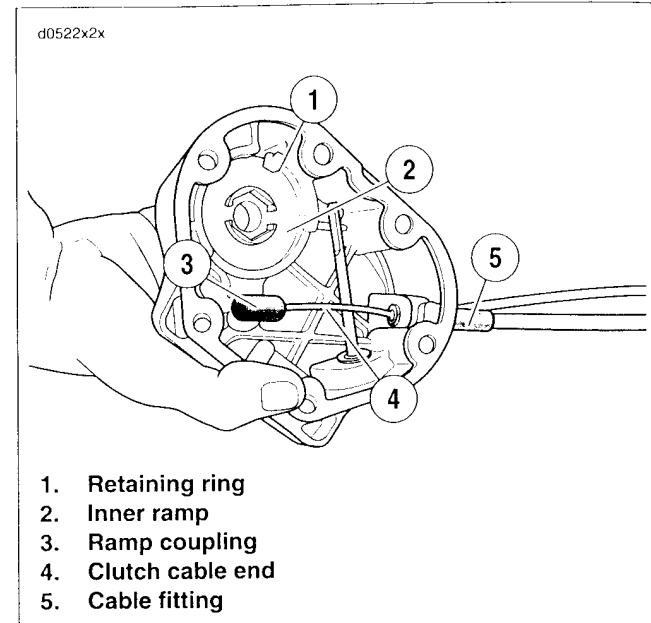
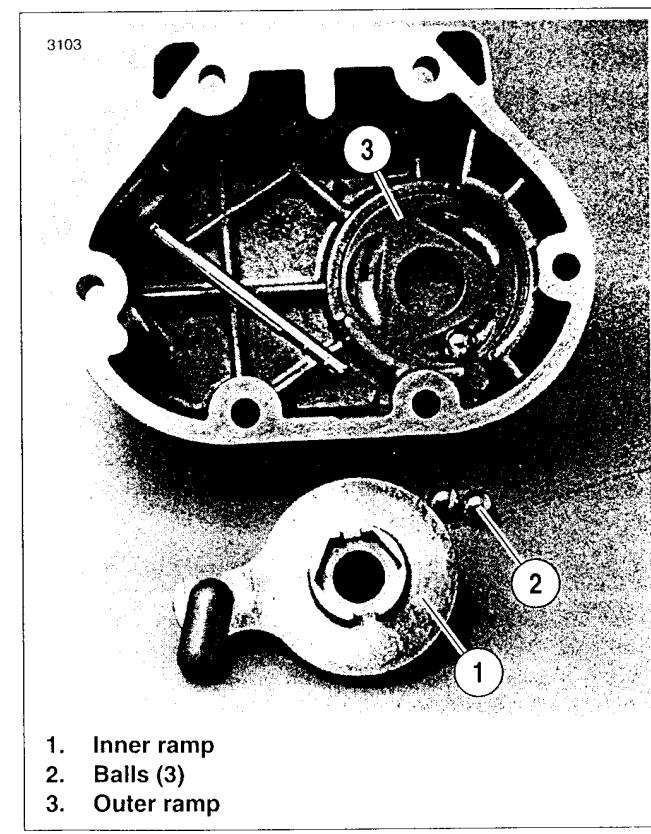

Figure 7-18. Clutch Cable Connection
Figure 7-19. Coupling and Ramp Assembly
4. See Figure 7-18. Note position of retaining ring opening. Remove retaining ring (1). Lift inner ramp (2) and coupling (3) out of clutch release cover. Disconnect clutch cable end (4) from the ball and ramp coupling (3).
5. Unscrew cable fitting (5) from clutch release cover.
6. See Figure 7-19. Remove balls (2) and outer ramp (3). Continue with CLEANING AND INSPECTION on the next page.
1. See Figure 7-18. Screw clutch cable fitting (5) into clutch release cover. Do not tighten at this time.